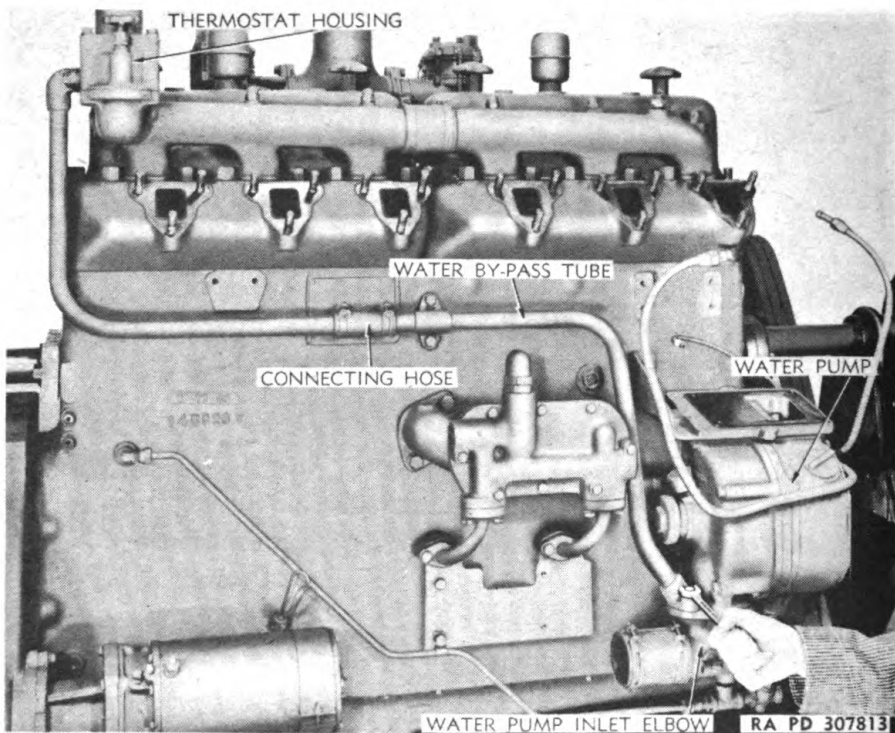
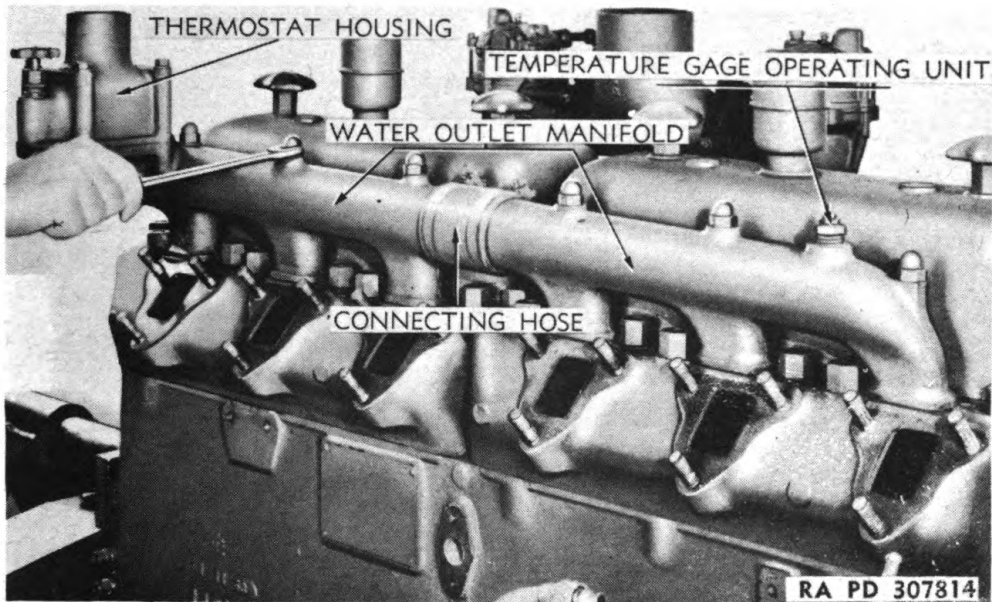

Figure 9 — Disconnecting Water By-pass Tube at Water Pump
Figure 10 — Removing Water Outlet Manifold Assembly
g. Remove Water Outlet Manifold. Remove two cap screws and lock washers to disconnect lower end of water by-pass tube from water pump inlet elbow (fig. 9). Remove two cap screws and lock washers to disconnect upper end of tube from thermostat housing. Remove the two cap screws and lock washers attaching tube to side of cylinder block, and remove water by-pass tube assembly. Remove the six acorn nuts from water outlet manifold mounting studs (fig. 10) and lift off water outlet manifold assembly with thermostat assembly, as a unit. Remove manifold gaskets.